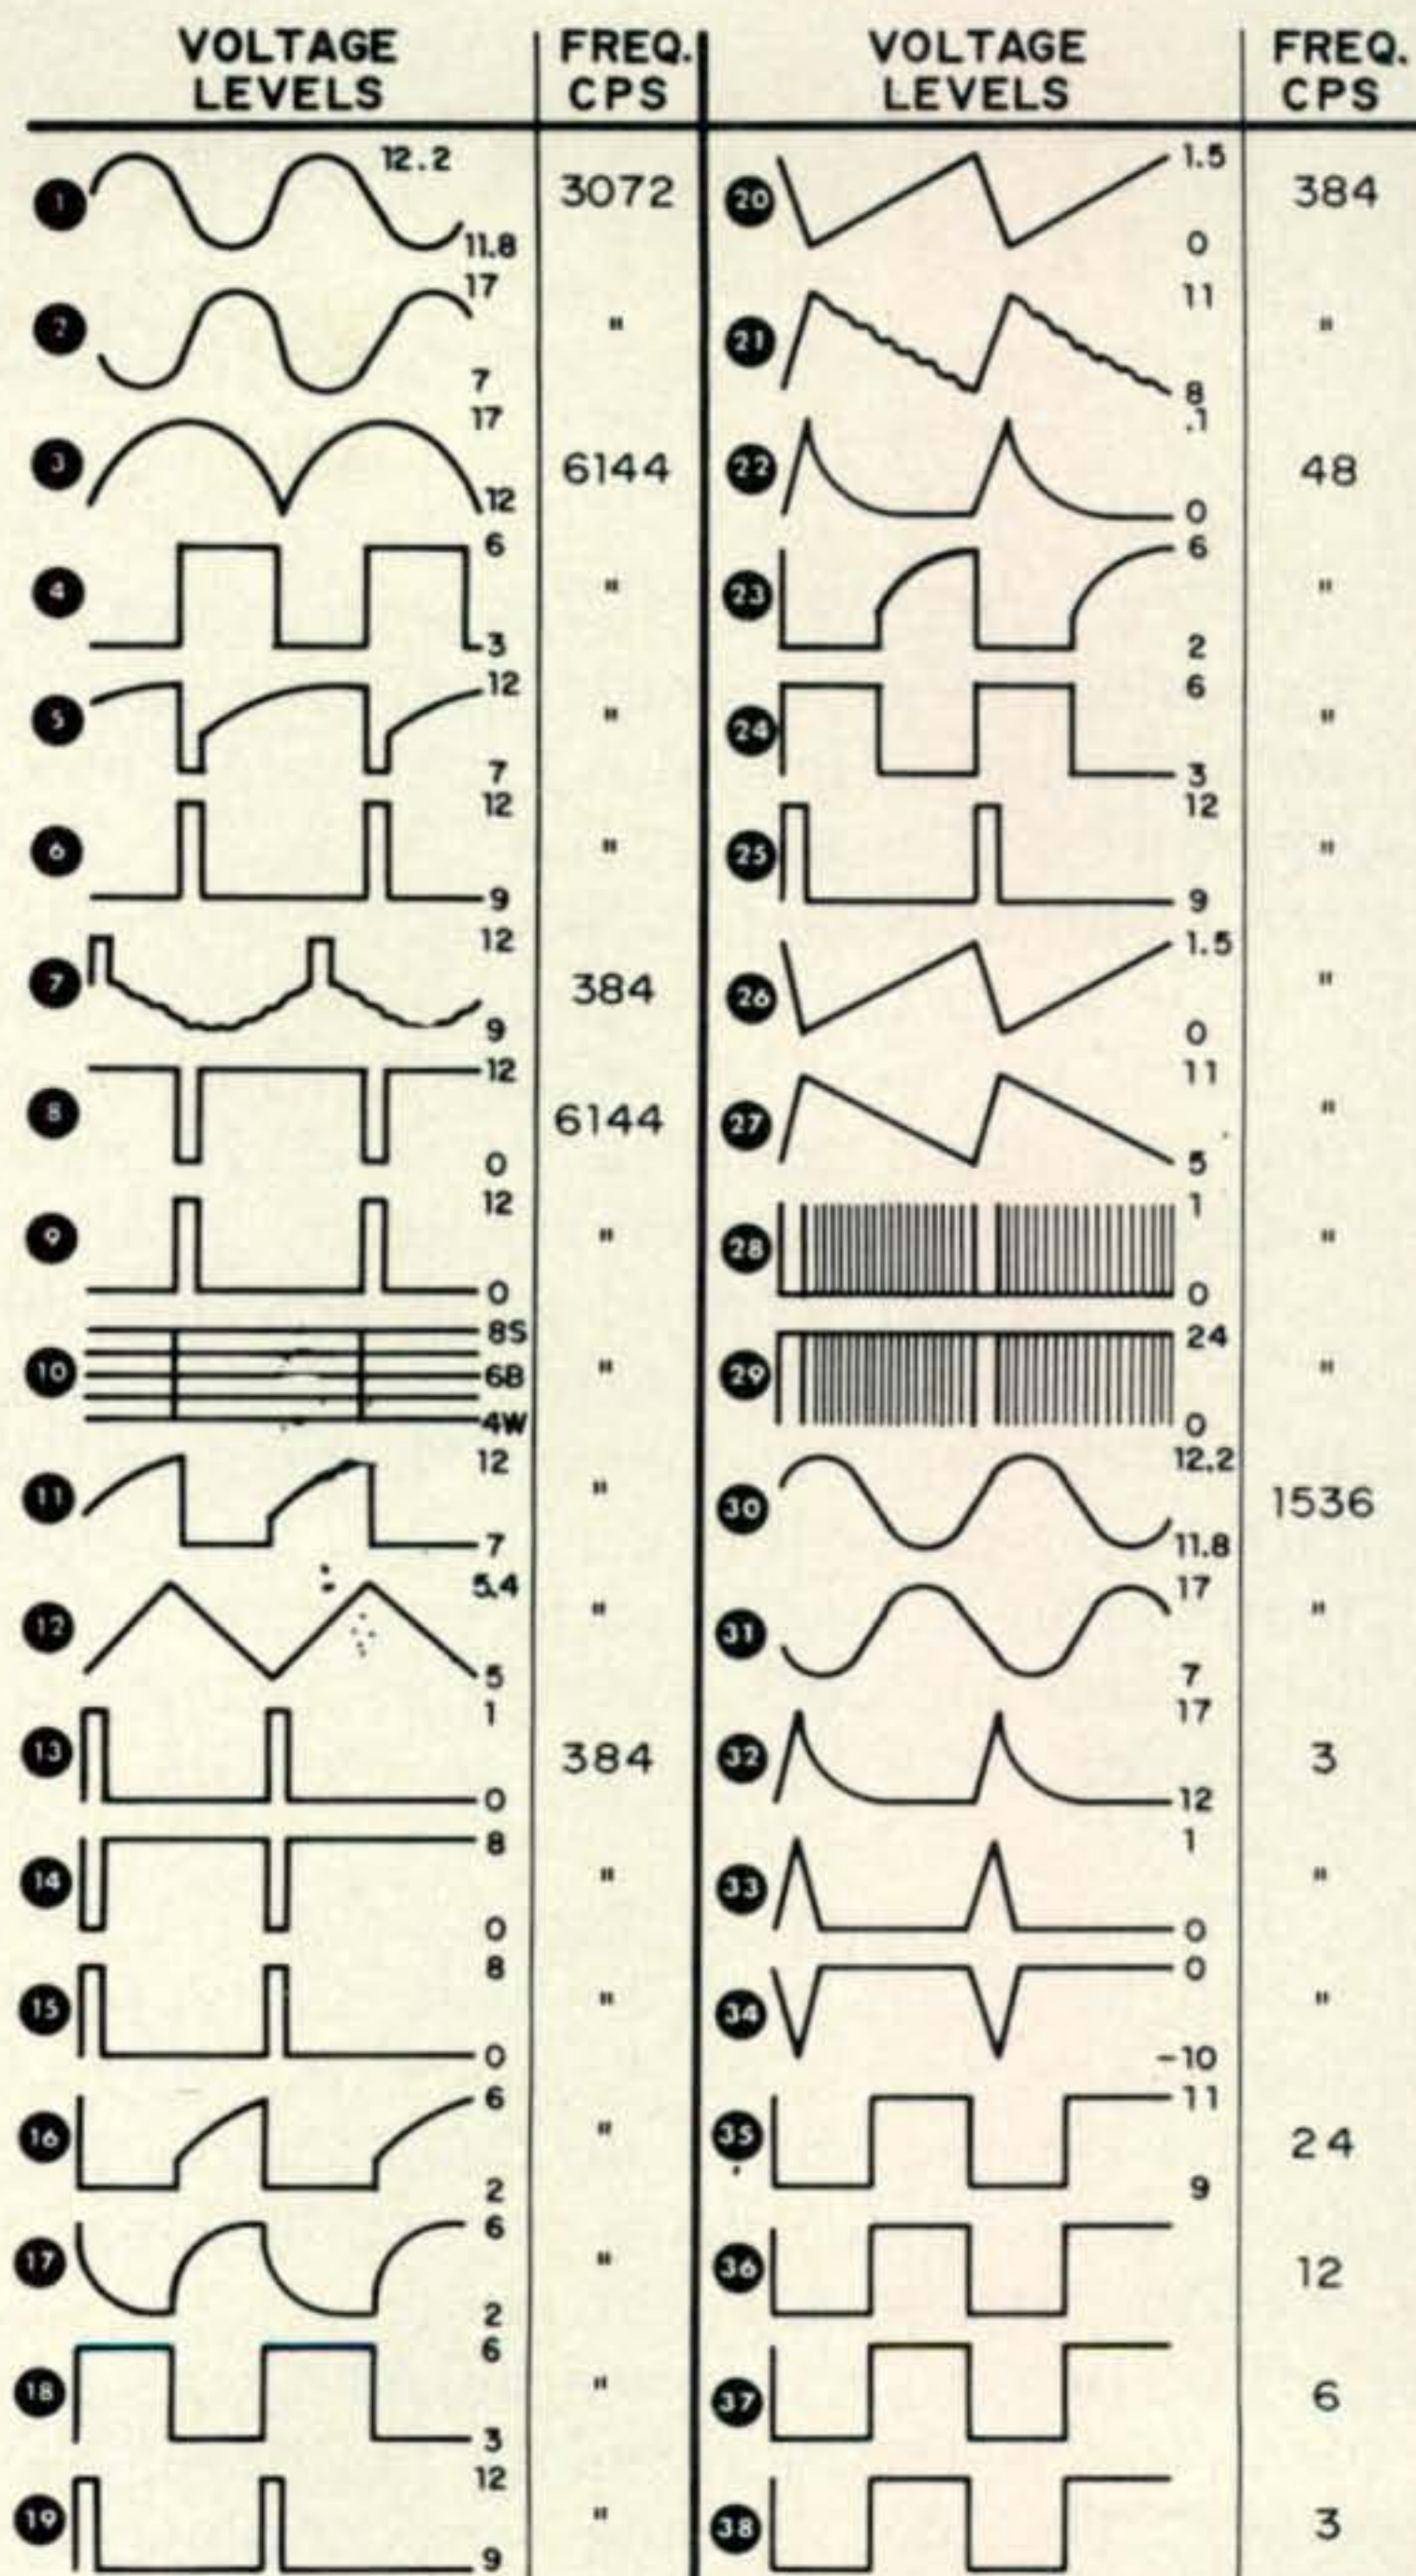

Fig. 10—Receiver waveshapes, frequencies and voltage levels. All waveshapes are shown starting at  $t = 0$ .
The important waveshapes, voltage levels, and frequencies for fig. 9 are given in fig. 10. Again, all waveshapes are shown starting from the same instant of time.
In the top row in fig. 9, sampling pulses are derived from the incoming dot sync. First, the 3072 c.p.s. component of the video signal is extracted (waveshape ① in fig. 10). The unloaded  $Q$  of this tuned circuit (as well as that of the others in the receiver) should be at least 50. Additional rejection of the non-3072 c.p.s. components is next accomplished (②), followed by a full-wave rectifier, ③. The latter signal synchronizes an astable multi to give a 6144 c.p.s. square wave, ④.
Fig. 9—Video section of the receiver using a 3.1 kc pseudo-random dot scan system. All transistors are n.p.n. silicon types with a beta of approximately 50. All diodes are germanium types. Blocks marked BMV are bistable multivibrators as in fig. 7. Waveshapes for the receiver section are shown, along with frequencies and voltage levels, in fig. 10.